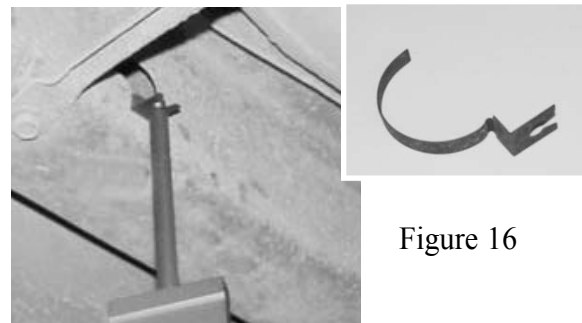

Figure 16
*Side Hole And Extended Side Hole Clips* - are used to mount Targets to vertical reference holes. The looped portion of the attachment hooks inside the reference hole providing the support needed for mounting Targets. (See Figure 16 and its inset.) Extended length side hole clips are provided to help technicians work around obstructions.